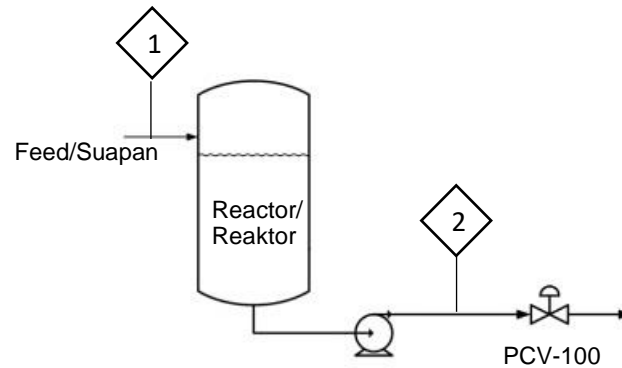

Figure 3: Polymerization Plant
- (b). By referring to **Figure 3**, draw control loop to show that PCV-100 will be activated to control the level of feed component when:
- (ii). Draw the symbol flag of stream identification for temperature, pressure and mass flow rate at point 1 and point 2 according to value in table provided in **Figure 3**.